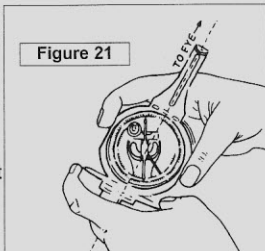

Figure 21
4. With large sight pointing toward you, position transit at eye-level with cover open to the left. (Fig 21)